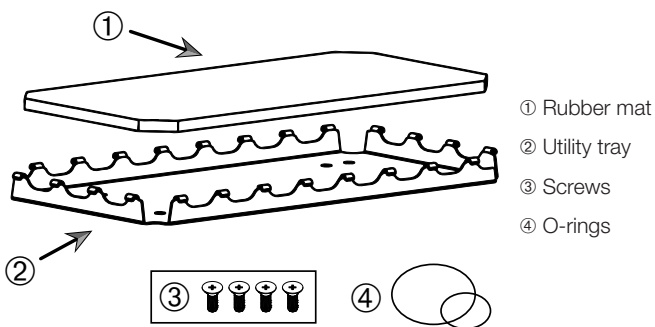

**Figure 92:** Separatory Funnel Clamp Assembly
3. Fasten the separatory funnel clamp assembly to the platform using the screws supplied with the separatory funnel clamp (⑥ in Figure 91 and Figure 92).